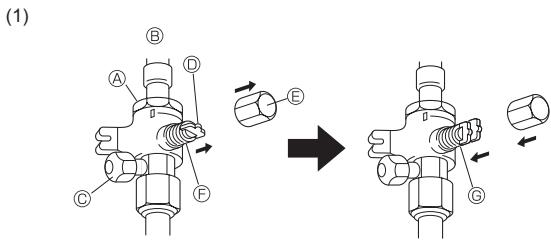
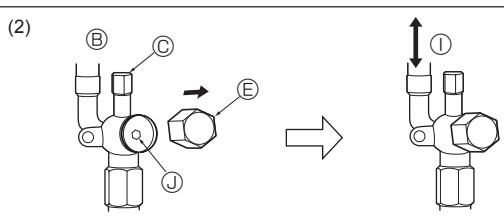

Fig. 5-8
Fig. 5-9
(1) Gas side (Fig. 5-8)
- ① Remove the cap, pull the handle toward you and rotate 1/4 turn in a counterclockwise direction to open.
- ② Make sure that the stop valve is open completely, push in the handle and rotate the cap back to its original position.
(2) Liquid side (Fig. 5-9)
- ① Remove the cap and turn the valve rod counterclockwise as far as it will go with the use of a 4 mm [3/16"] hexagonal wrench. Stop turning when it hits the stopper.
- ② Make sure that the stop valve is open completely and rotate the cap back to its original position.